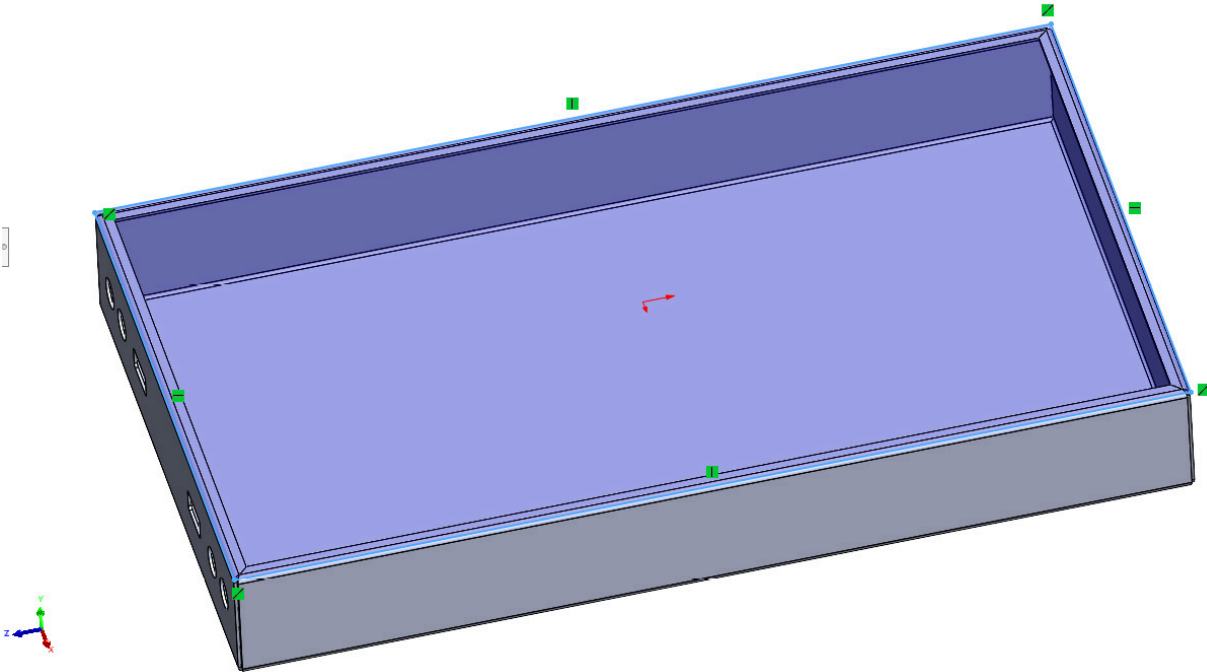

Figure 13.12 – Linking to the rectangle sketch to the base
3. Continue the process with the remaining three edges so that the entire rectangle is Fully Defined and linked to the base section underneath (Figure 13.12):